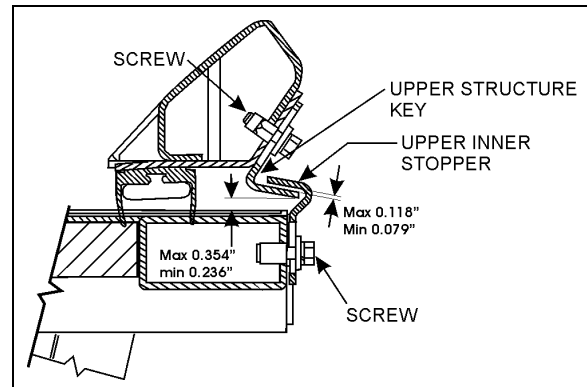

FIGURE 4 : UPPER INNER STOPPERS ADJUSTMENT
- Adjust the upper structure key and the upper inner stoppers according to FIGURE 4 with the seal deflated. When inflating, the seal presses the roof structure upward and at